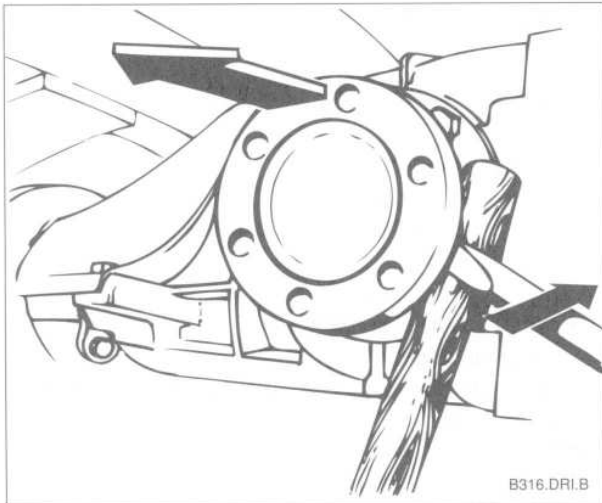

Fig. 3. Drive flange being pried off. For leverage, use a wooden dowel as shown.
2. Pry drive flange from final drive. See Fig. 3.